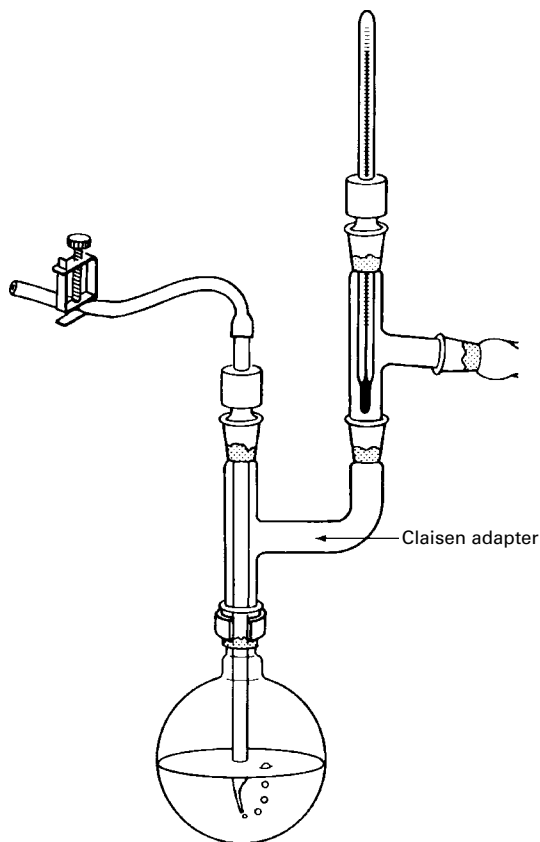
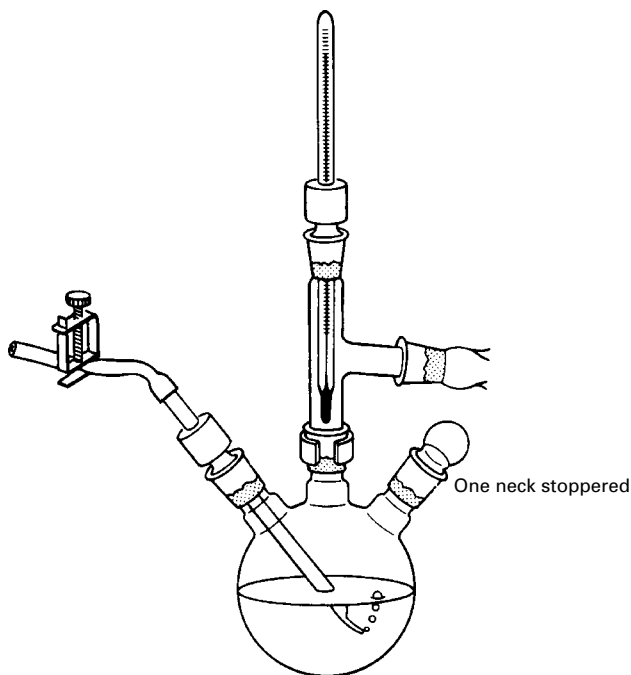

FIGURE 19.8 A Claisen adapter so you can vacuum distill and take temperatures, too.
FIGURE 19.9 Multipurpose setup with a three-neck flask.
9. A **Claisen adapter** in the distilling flask lets you take temperature readings and can help stop your compound from splashing over into the distillation receiver (Fig. 19.8). On a microscale, though, the extra length of the Claisen adapter could hold up a lot of your product. Check with your instructor. You could also use a **three-neck flask** (Fig. 19.9). Think! And, of course, use some glassware too.